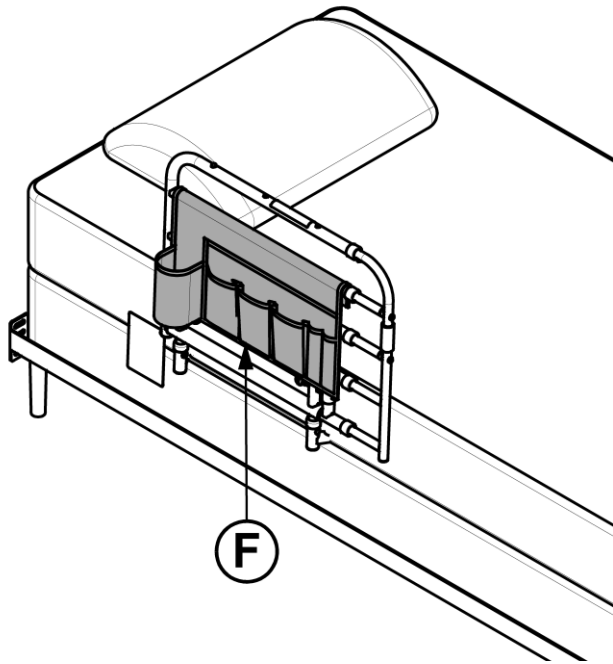

FIGURE 7
7. Place pouch **F** on rail as shown in *FIGURE 7.*